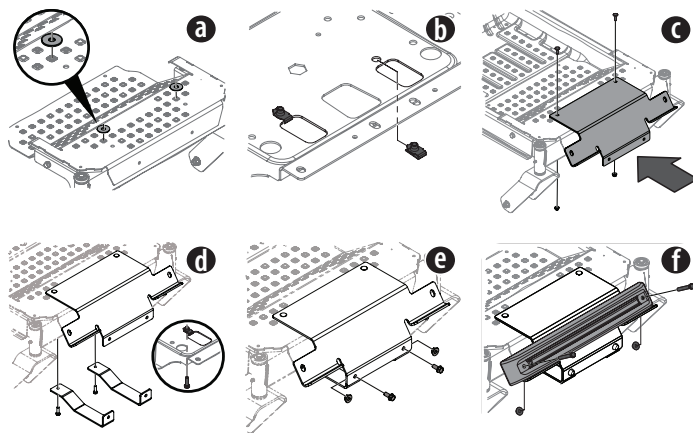

Figure 18
4. Loosely fasten the bottom bracket assembly to the tractor frame with two bolts (710-0643). See (d) in Figure 18.
5. Secure the upper and lower bracket with two bolts (710-04482) and two nuts (712-04217). See (e) in Figure 18.
7. Place counterweight (719-04271A) on the bracket (703-11046) and align with tabs. Secure counterweight with two bolts (710-0859) and two nuts (712-04217). See Figure 18.